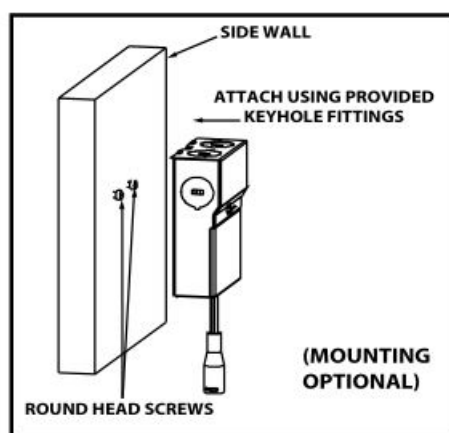

Figure 4
- MUST follow local electric code for rigid attachment and placement of the remote driver box. (Figure 4)